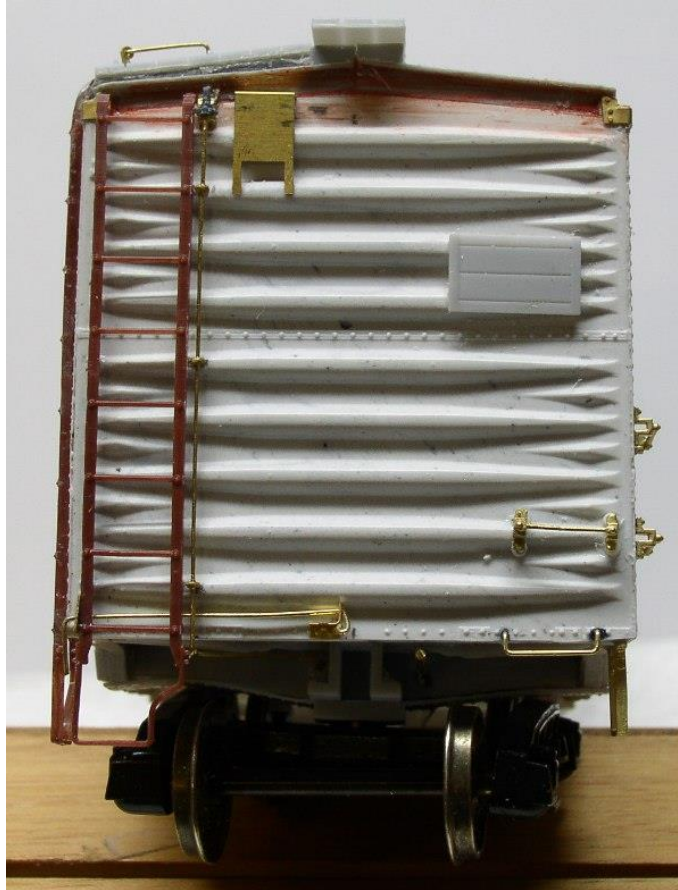

Figure E7
11. On the B end, fold the Gear Housing bracket and test fit. The lip may be too long to form a vertical fit. If necessary file off enough material to get it to form a good vertical fit. Position it so that it is horizontally 19" from the centre of the car and that the two legs are centred on the rib second from the top. The placard is mounted 11" from the side on the two ribs above the rivet seam. Glue both in place. See Figure E7.